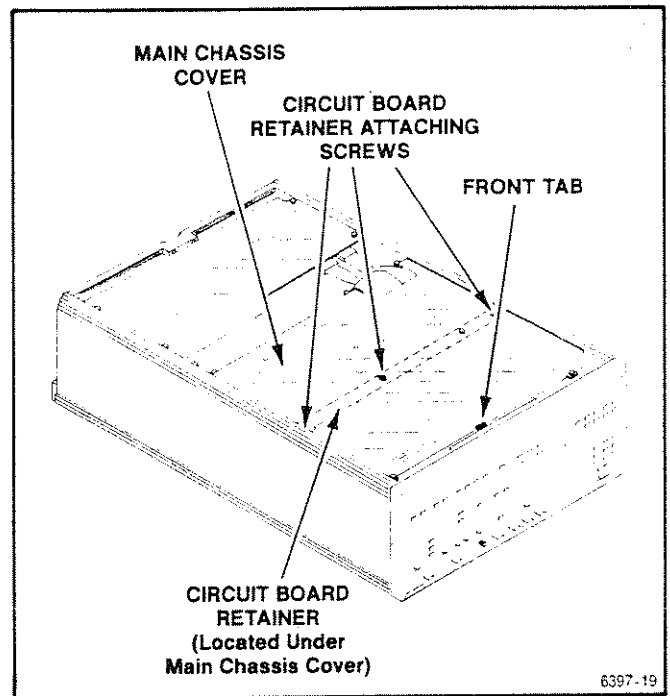

Fig. D-5. Main chassis cover and circuit board retainer.
2. Remove the six (6) Main Chassis Cover attaching screws (Fig. D-5). There are two (2) screws at the front edge, three (3) at the rear edge, and one (1) at the top right center part of the cover.